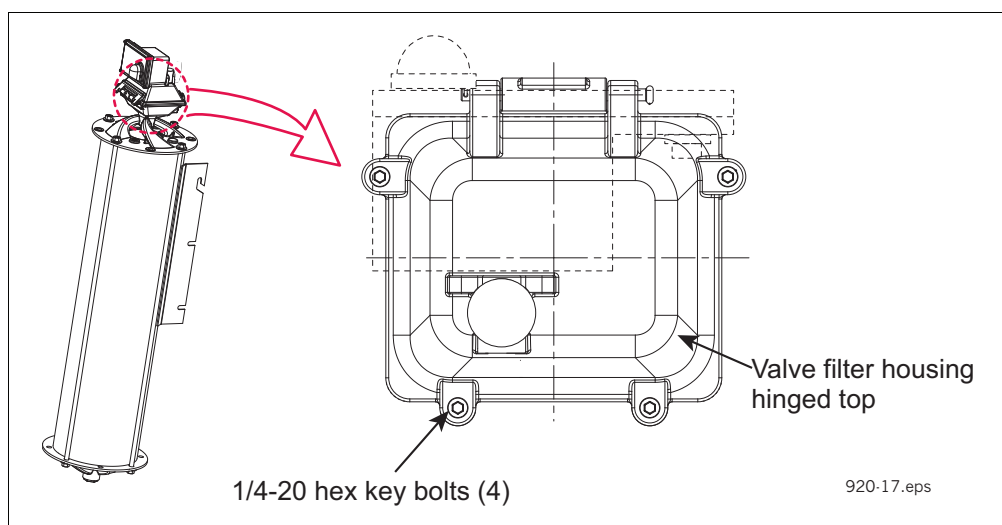

Figure 15. Accessing the valve filter and o-ring
1. Remove the four 1/4-20 x 1 inch hex key bolts from the top of the vapor valve filter housing (see Figure 15).